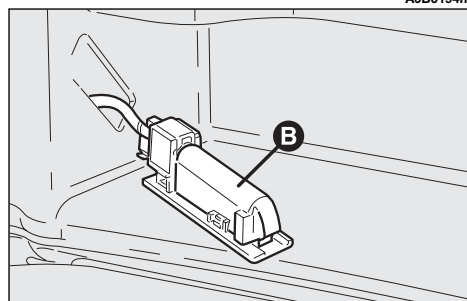

fig. 62
- Remove the cover (**B-fig. 62**).
— Refit the cover (**B-fig. 62**).